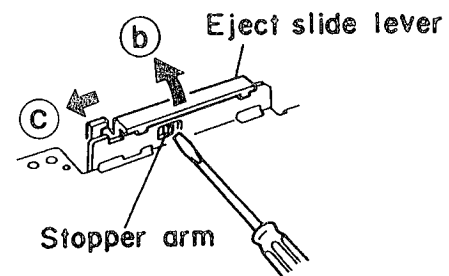

Fig. 2-19
■ Removing the CD pickup unit (See Fig. 2-19)
2. According to the above step, shift the CD pickup unit to the center position (Fig. 2-19).
3. While pressing the stopper retaining the shaft in the arrow direction (c), pull out the shaft in the arrow direction (d) (See Fig. 2-19).
■ Eject slide lever (Fig. 2-19)
1. Place the cassette mechanism back side frontward and disengage the stopper arm ⑥ of the Eject slide lever by pressing it inwards through the opening of the chassis with a small screwdriver as shown in Fig. 2-19.
2. Disengage the Eject slide lever in the direction of arrow ③.